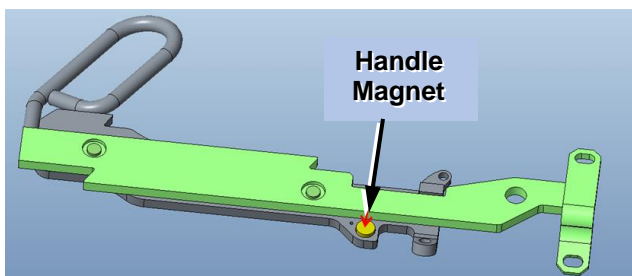

FIGURE 14
A. Under the topplate, feel along the trailing edge of the release handle for the bump out (see figure 14).